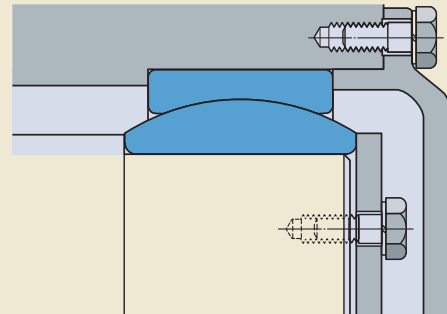

Fig. 8
- a spacer sleeve between the ring and a neighbouring machine component (→ **fig. 8**)